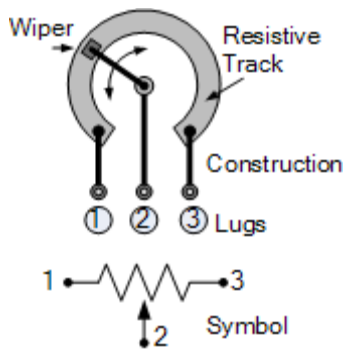

Figure 16 – Diagram of Typical Linear Potentiometer.
GPI for level control can take multiple configurations in Powersoft Quattro and Duecanali Series amplifiers. In each instance a 10kΩ linear taper potentiometer will be used for the volume control (Figure 16). Powersoft has a great option for a 10kΩ wall mount potentiometer in the WMP-Level control. A 10kΩ linear taper potentiometer has (3) components: